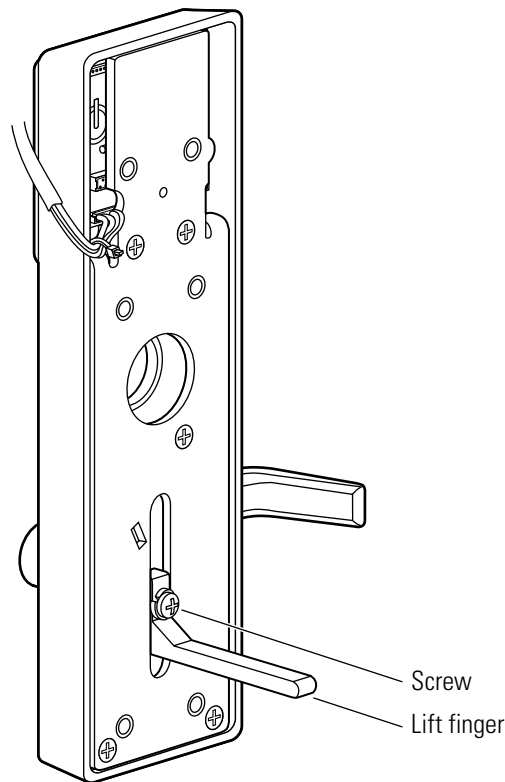

Figure 10.3 Removing and reinstalling the lift finger (Precision Hardware rim configuration shown)
2. Note the orientation of the lift finger. See Figure 10.3.
2. Position the washer on the lift finger screw. Tightly secure the lift finger with the lift finger screw (25–30 lbs. torque). See Figure 10.3.